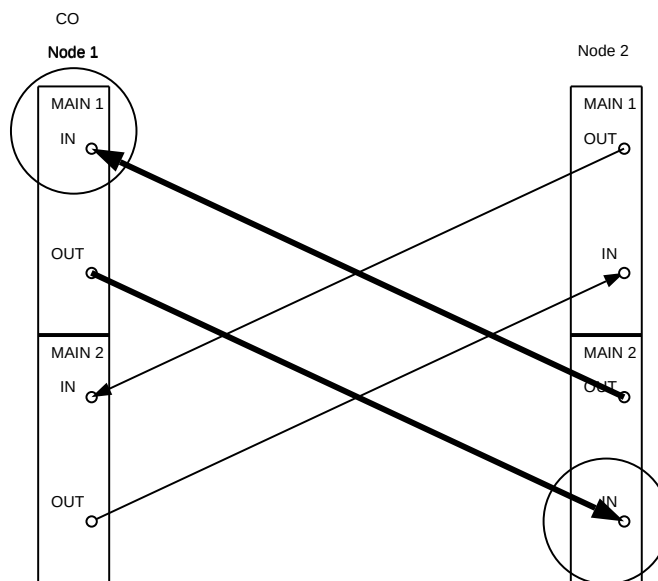

Figure 15. DDM-2000 OC-3 Point-to-Point to Ring Upgrade
25. Remove optical splitter from Node 1 **MAIN 2(P) IN** and Node 2 **MAIN 1 OUT**. Connect optical fiber from Node 2 **MAIN 1 OUT** to Node 1 **MAIN 2(P) IN**. (See Figure 15.)
At Node 2, use the **switch-line:main:pri>manual** command to switch service to the protection line (main-2 OLIU active) at Node 2. (See Figure 15.)